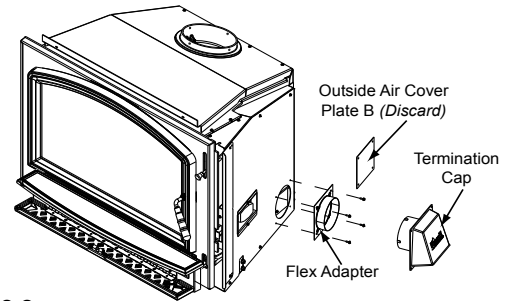

Figure 18.2
5. Remove the outside air cover plate B on outer can and discard (Figure 18.2).
14. Remove the outside air cover plate B on outer can and discard (Figure 18.2).